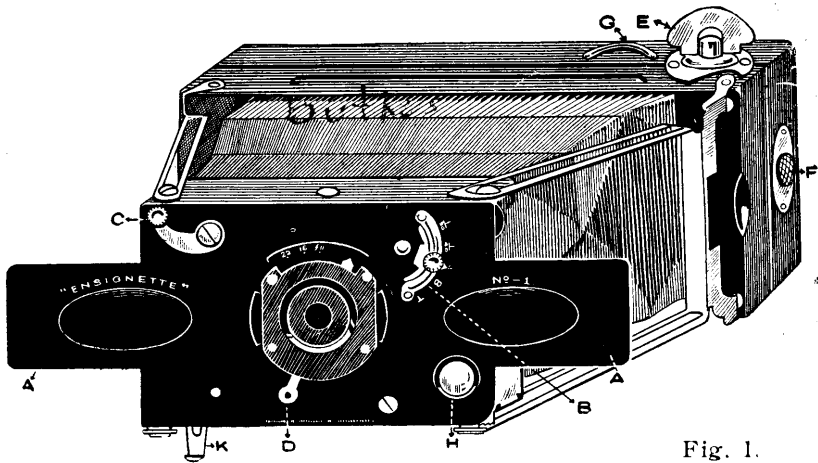
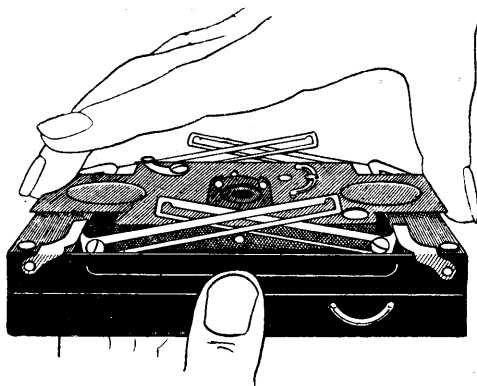

Fig. 1.
Fig. 2.
Figure 1 is a diagram of the camera.
TO OPEN.—Place the finger tip or thumb under one of the square projecting ends marked AA (Fig. 1) and raise it about an inch. Then grasp both ends of AA (Fig. 2) with finger and thumb and pull the front slowly forward until it locks firmly in the bayonet joints provided in the four ends of the plated struts. The camera is now fully extended and rigidly held in the correct position for making exposures.
**THE SHUTTER.**—Nos. 1 and 2 Single Achromatic, R.R. and T.T.H. Models. Place the star-shaped button B (Fig. 1) so that its pointer is at 1/20. Move the lever C slowly downwards to its fullest extent. The “click” indicates that the shutter has given an exposure of one-twentieth of a second. The lever, upon release, automatically moves back into position for the next exposure. The shutter is always set. Faster speeds of 1/40 and 1/60 of a second are obtained simply by moving the pointer B to the figure required.
The button D (Fig. 1) which is movable radially right or left, controls the Iris diaphragm and the stop aperture required, either  $f/11$ ,  $f/16$ , or  $f/22$ , is indicated by a small pointer working on a scale placed above the lens mount.
Remove the back again and look at the inside of the camera. To the right and left are the chambers for the film spools, above the left-hand one being the winding key, shown at E in Fig. 1. Detachable spring loaded spool-holders are provided, and these, in addition to suspending the spool free of the spool chamber, ensure the film being kept taut across the rollers, whilst the curved spring which is fitted obviates any risk of a spool unwinding when being lifted from the camera.
Put on the back and lock it, showing word "Closed" (in manner previously indicated). Turn the winding key in the direction of the arrow, watching the circular red window in the middle of the back until "O" appears. Proceed then to wind slowly and cautiously until the figure "1" is seen. The film is now in a correct position for the first exposure. Successive exposures are made by turning until the figures 2, 3, 4, etc., appear.